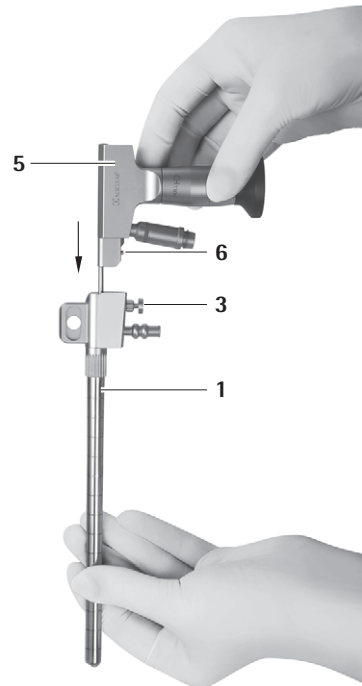

Fig. 2
- ▶ Lock the endoscope 5 in the MINOP InVent trocar 1, see Fig. 2,